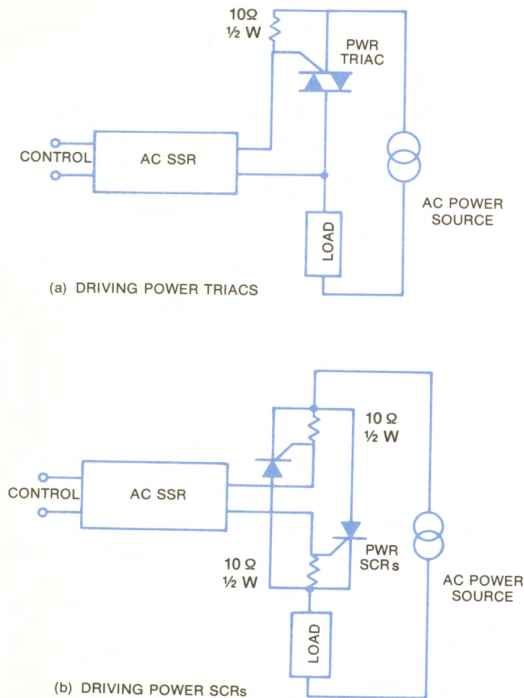

Fig. 2-19 Driving high power thyristors with low power AC SSRs.
2.6.5 Driving High Power Thyristors (Fig. 2-19)